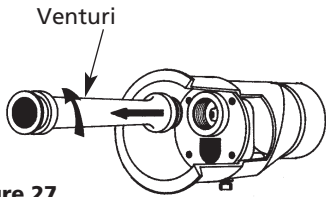

Figure 27
6. Remove venturi by unscrewing it (turn counterclockwise; See Figure 27).